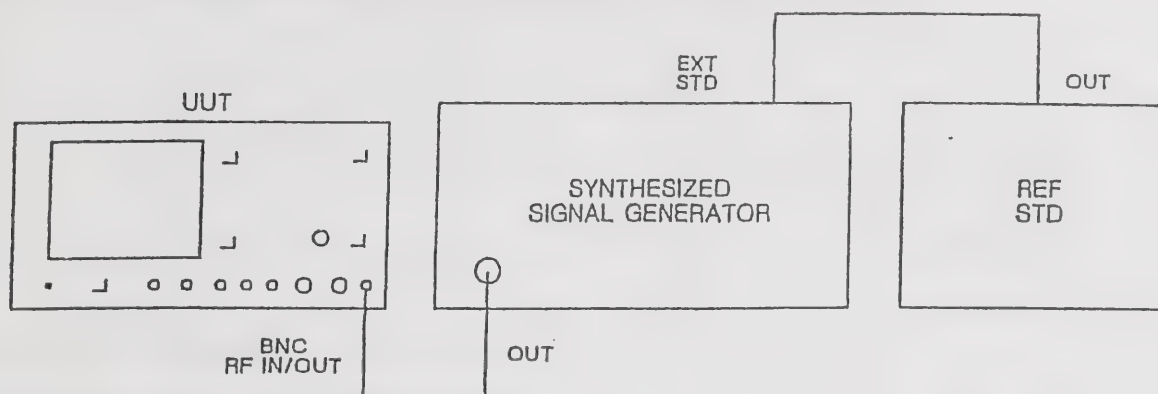

Fig. 3-13 Test equipment connections for adjusting R39 on AC1
- (1) Connect the equipment as shown in Fig. 3-13, but ensure that the external reference standard has an accuracy better than ± 5 parts in 10^{10} .